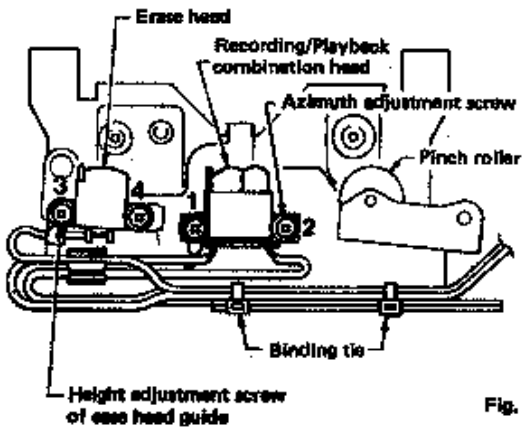

Fig. 8
- Remove screws ① and ② in fig. 8 and then replace the recording/playback combination head.
- Remove screws ③ and ④ in fig. 8 and then replace the erase head.